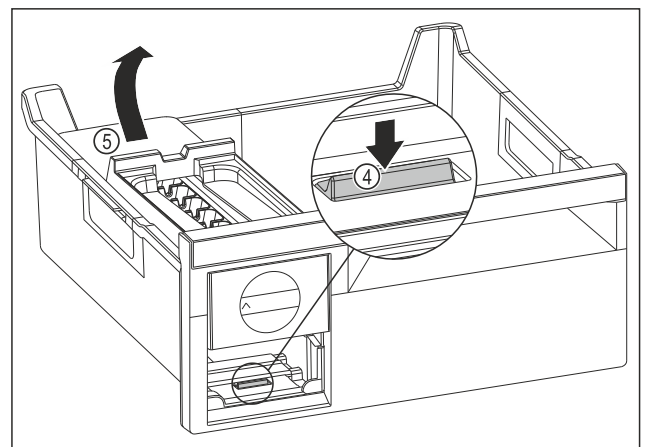

Fig. 78
- ▶ Removing the EasyTwist-Ice body: Use your finger to push the tab Fig. 78 (4) down and use your other hand to lift the EasyTwist-Ice body Fig. 78 (5) from behind at the same time.